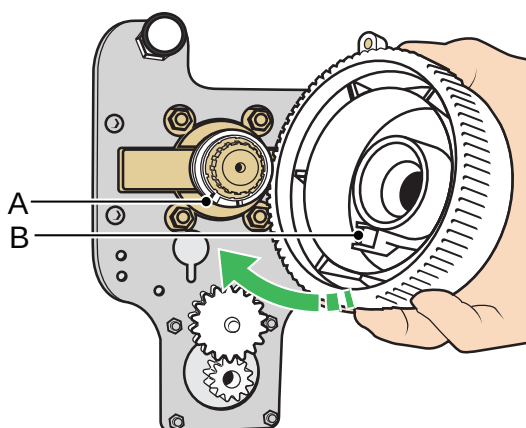

Figure 131
16. Position the large gear wheel on the mixer splines and make sure the override stop knob (B) fits onto the stop ring cut out (A). Do not rotate the spline. See Figure 131.